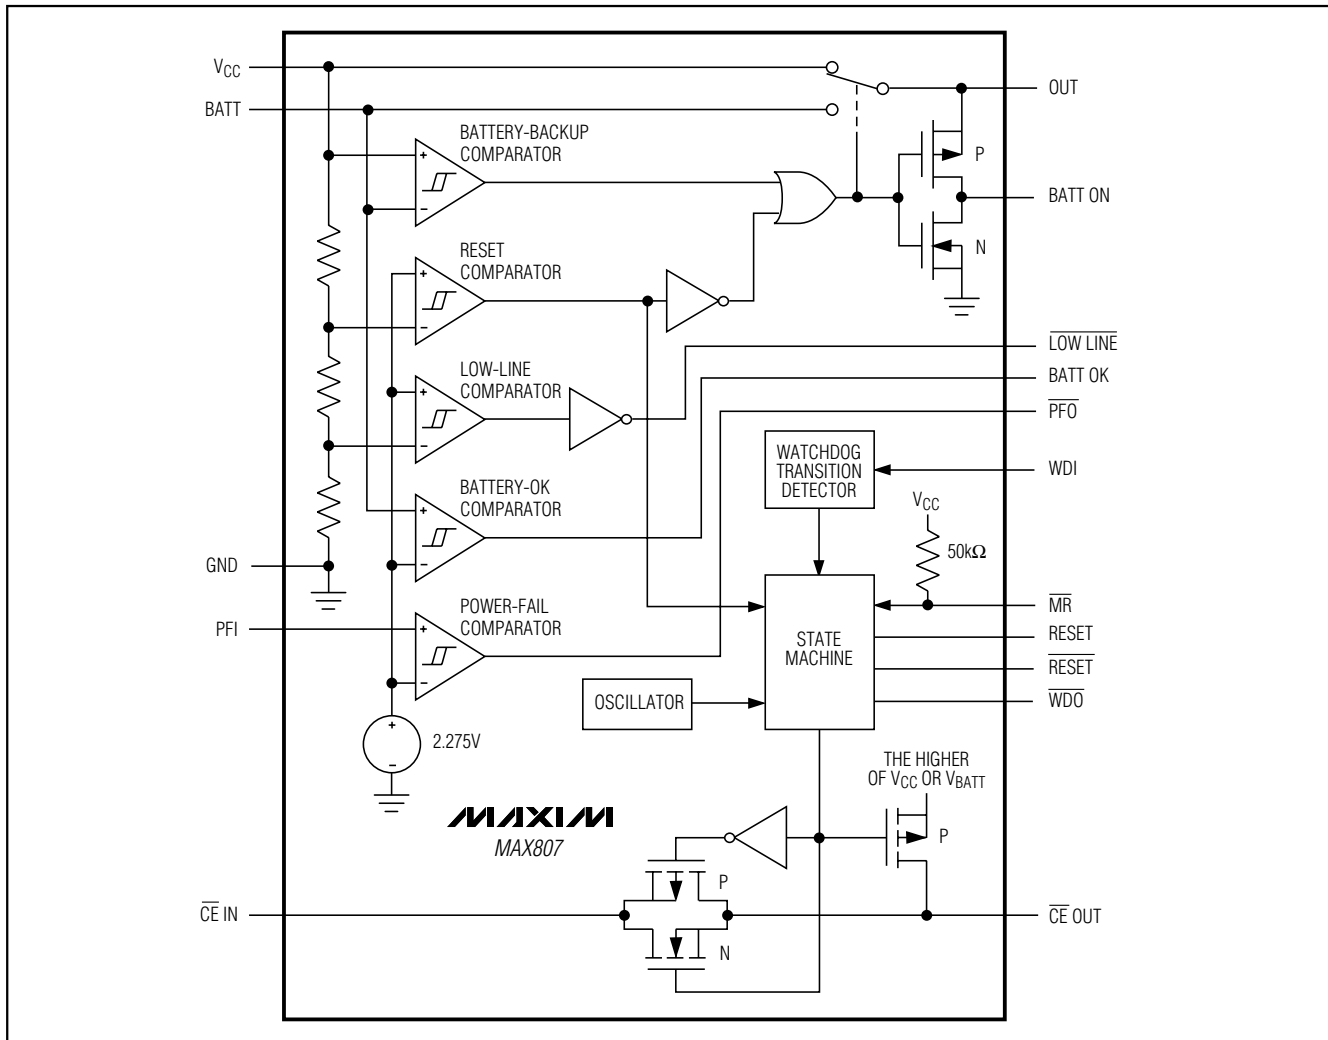

Figure 1. Block Diagram
The MAX807 μ P supervisory circuit provides power-supply monitoring, backup-battery switchover, and program execution watchdog functions in μ P systems (Figure 1). Use of BiCMOS technology results in an improved 1.5% reset-threshold precision, while keeping supply currents typically below 70 μ A. The MAX807 is intended for battery-powered applications that require high reset-threshold precision, allowing a wide power-supply operating range while preventing the system from operating below its specified voltage range.
The MAX807 provides internal gating of chip-enable (CE) signals to prevent erroneous data from corrupting the CMOS RAM in the event of a power failure. During normal operation, the CE gate is enabled and passes all CE transitions. When reset is asserted, this path becomes disabled, preventing erroneous data from corrupting the CMOS RAM. The MAX807 uses a series transmission gate from the Chip-Enable Input (CE IN) to the Chip-Enable Output (CE OUT) (Figure 1).